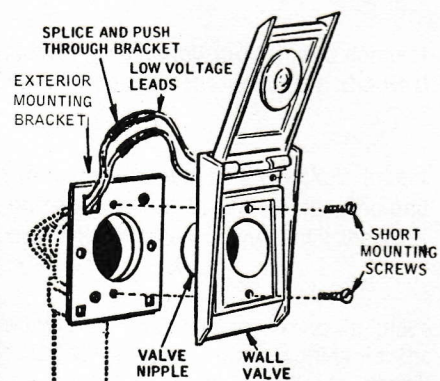

FIGURE 7
9. Splice the low voltage connector wires to the leads coming from the unit and snap in place on the male connectors of the low voltage switch. Insert valve nipple into opening in the mounting brackets (the use of soap on "O" ring will simplify the assembly of valve to elbow); use care to feed low voltage wires back into opening. Secure wall valve in position using the two short machine screws. (See Figure 7)